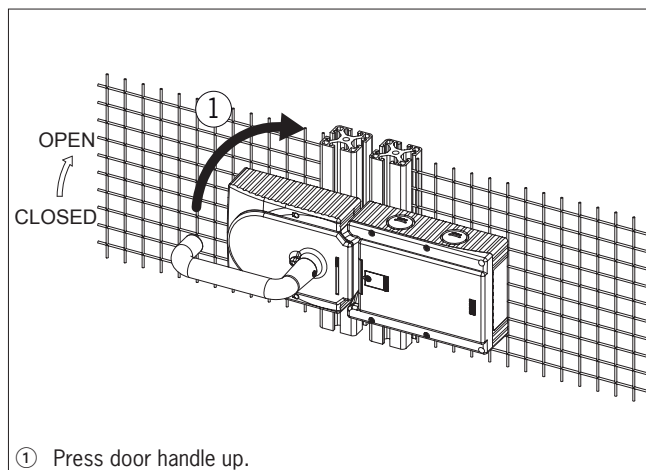

Figure 10: Changing actuating direction, step ①
- The system is mounted the other way up for doors hinged on the left. In other words, the safety guard opens by pressing up the door handle (see Figure 10). For this reason the actuating direction of the door handle must be changed (see Figures 10 - 15).